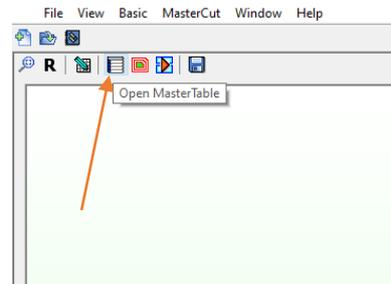

Figure 94
- First click on  (Open MasterTable) in the Main Toolbar (Figure 94).